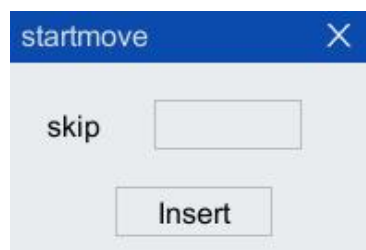

Figure 5-38 "Startmove" instruction configuration interface
Step1. Click "Insert Cmd> Process Control> startmove" option in the toolbar of the program editor to pop up "startmove" instruction interface, as shown in Figure 5-38.